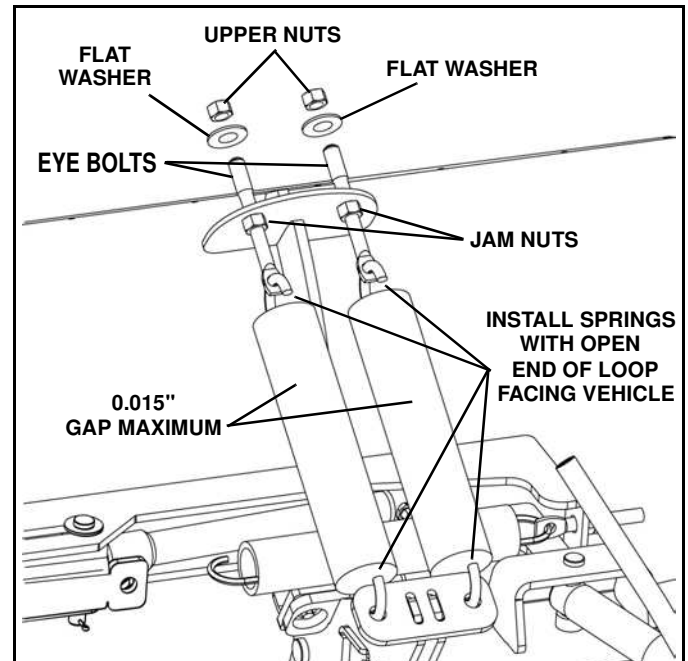

Figure 1-9
11. Hook one spring on an outer swing frame spring eyelet: (See Figure 1-9).